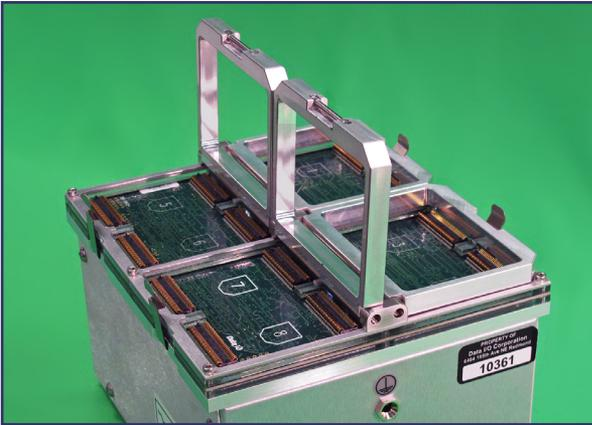
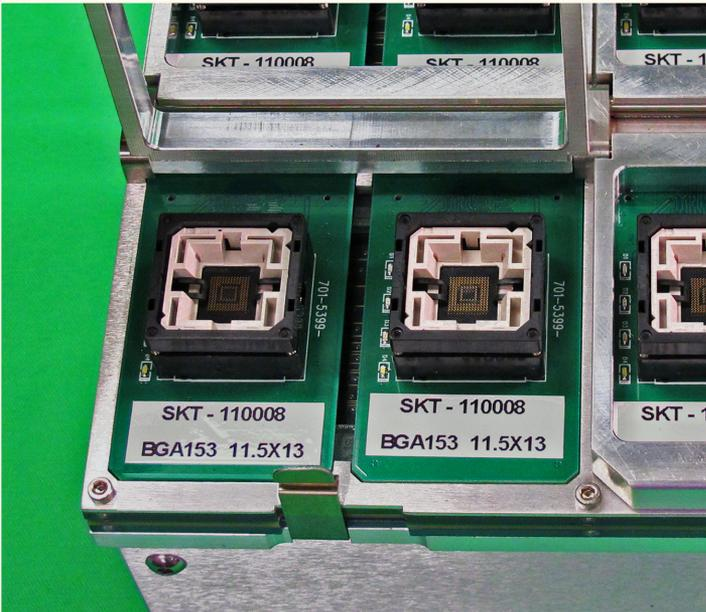

Figure 2: Two socket clamps are open.
Figure 4: Note chamfered (angled) corners on Socket Adapters fit into programmer body. (One clamp is open.)
- 1-4. Rotate the Socket Adapter so the chamfered (angled) corners match the diagram on the circuit board; refer to Figure 2 & Figure 4. Position all locations in the same orientation.